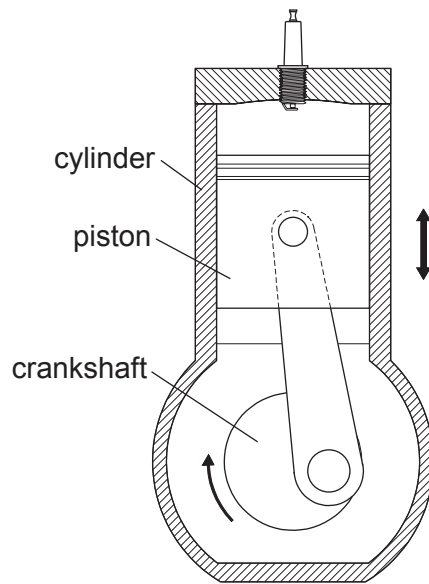

Fig. 6.1
6 Fig. 6.1 shows a simplified line drawing of a small internal combustion (IC) engine.